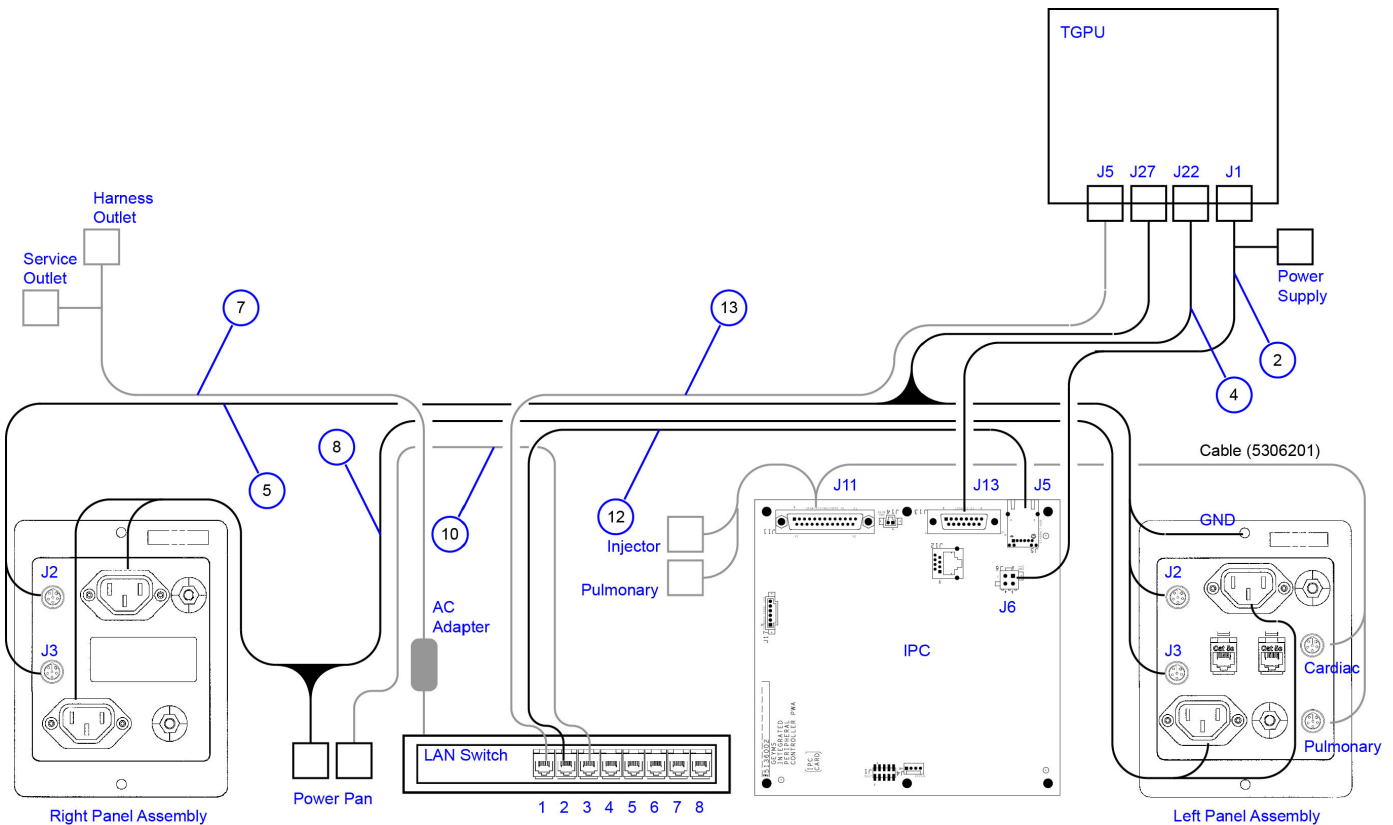

Figure 1-8 Cable Harness Assembly (5316429) Connections
2.) Connect all cable connectors of cable harness as shown in Figure 1-8.